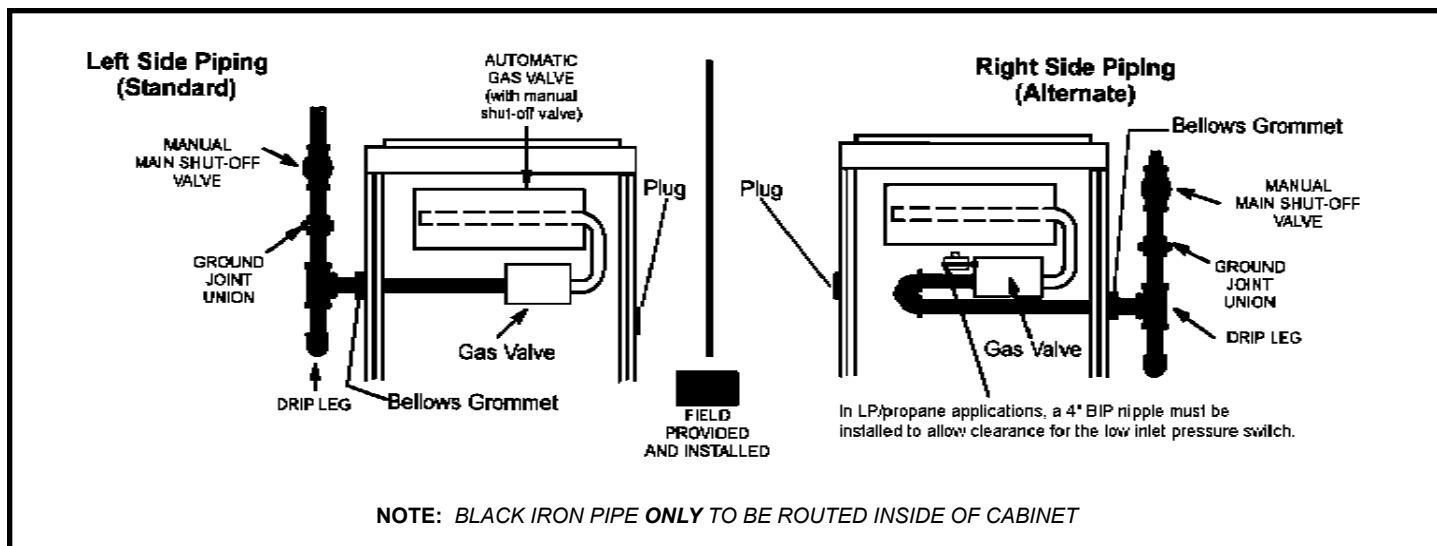

Figure 57
1. Gas piping may be routed into the unit through either the left or right hand side. Supply piping enters into the gas valve from the side of the valve as shown in Figure 57 and 58. Move Bellows grommet to side which gas line enters. Ensure opposite gas line hole is plugged with supplied plug.
3. Gas piping must not run in or through air ducts, clothes chutes, chimneys or gas vents, dumb waiters or elevator shafts. Center gas line through piping hole. Gas line should not touch side of unit. See Figures 57 and 58.